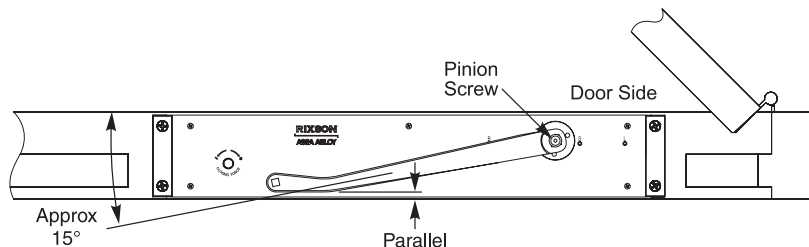

Figure 5
1. Using provided  $5/32"$  hex wrench and  $1/4$ -20 x  $3/4"$  Allen Drive with Patch screw and washer, attach arm to closer spindle. (Figure 5)